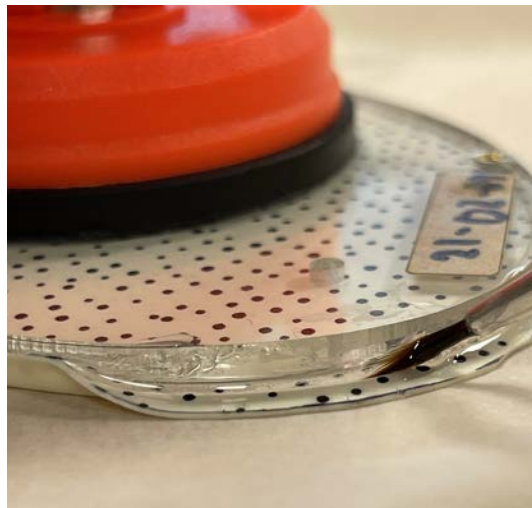

Figure 55: Glue is applied to the bottom half of the acrylic window edge starting from the base where the latex meets the acrylic
18. Using a disposable paintbrush, quickly and thoroughly paint around the elliptical edge of the acrylic window - the goal is to cover about half the height of the window from where the latex meets the acrylic to the middle of the edge of the window (Fig 55).